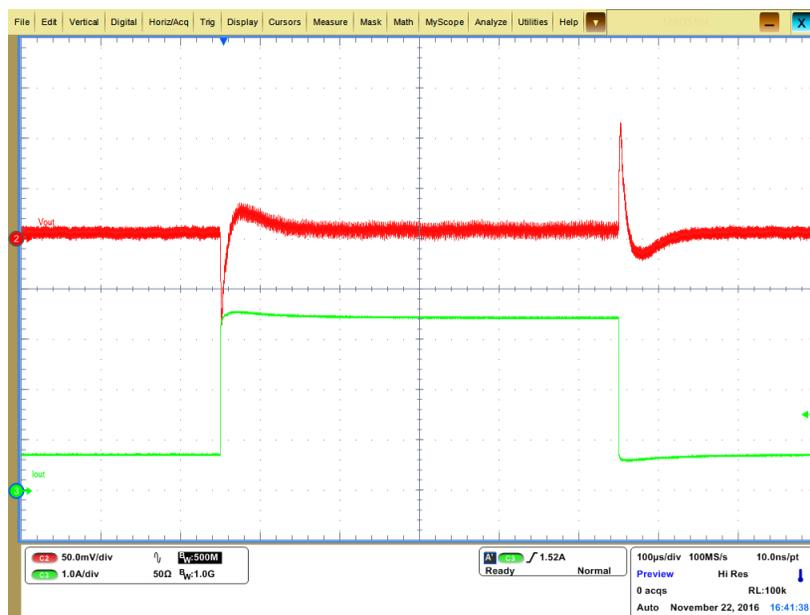

Figure 18. Transient Response Waveform, SMPS2
- Load starts at 800 mA, goes to 3.5 A, then returns to 800 mA (Figure 18)